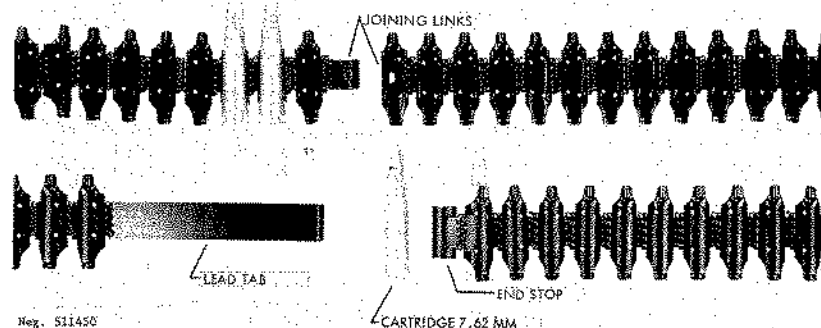

Figure 151. RPD feed belt.
b. The RPD is an automatic, gas-operated, bipod-mounted weapon that fires from the open-bolt position. It is fed from metallic-link belts (fig 151); normally two coupled 50-round sections are carried in a drum-type belt container under the gun. The Chinese guns often use four 25-round sections. The RPD fires the 7.62x39-mm M1943 cartridge (sec VI).
a. Load the metallic-link belt by inserting a cartridge into each link and pressing it into the link until the positioning tab snaps onto the rim of the cartridge (fig 151). Some belts are similar to those used in the Czechoslovak M52 light machinegun (Czechoslovak and RPD belts are not interchangeable) and have a tab that fits behind the cartridge (refer to para 169b). Belt sections can be joined to make 100-round capacity belts by coupling the end link on one belt with the joining link on the other belt; once connected, the links are held together by inserting a cartridge. Turn the lock on the drum and open its cover; coil the belt so that the lead tab (fig 151) is on the outside, and insert the belt into the drum. Only the lead tab should protrude from the drum.